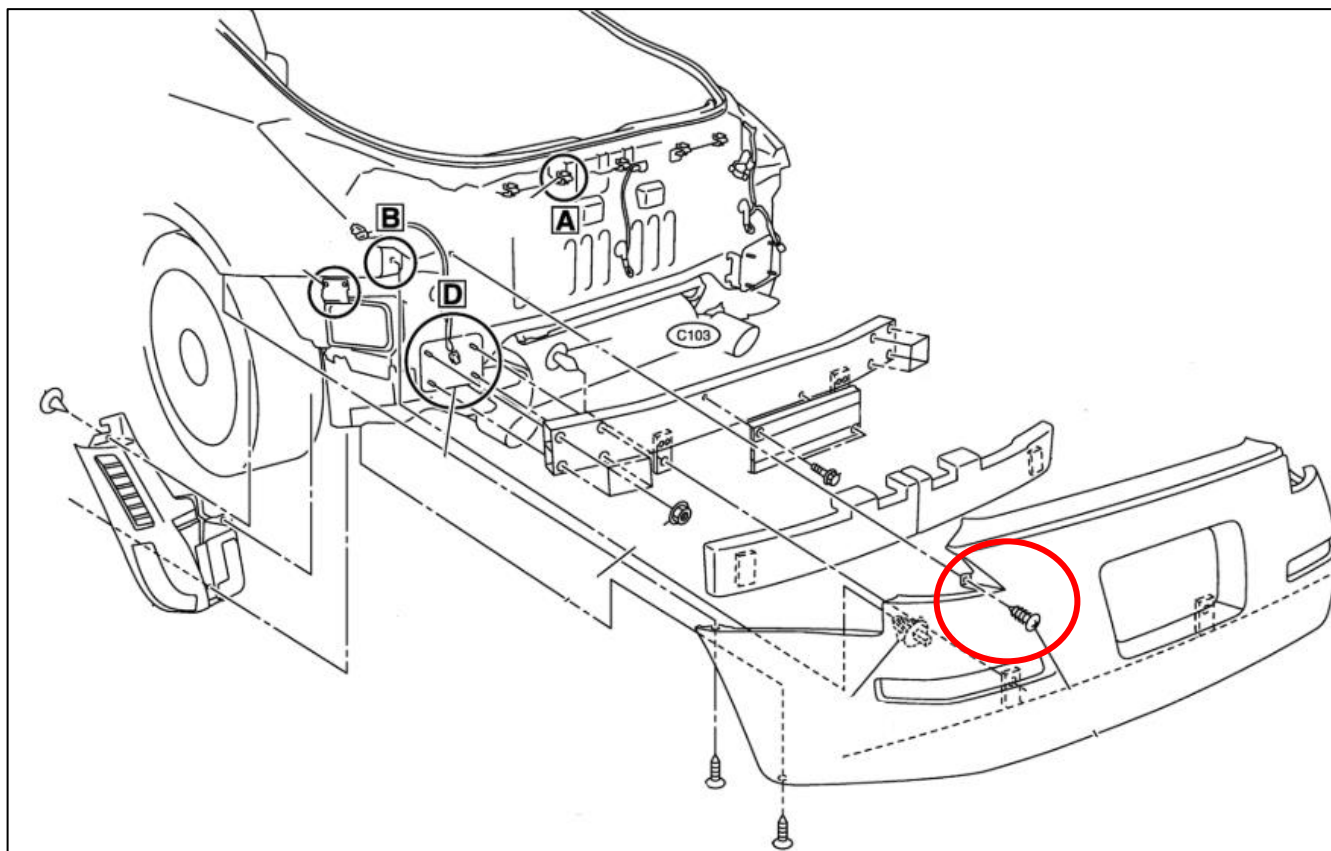

Figure 2
6. Remove the (1) one bolt beneath each taillight housing. *Figure 2.*